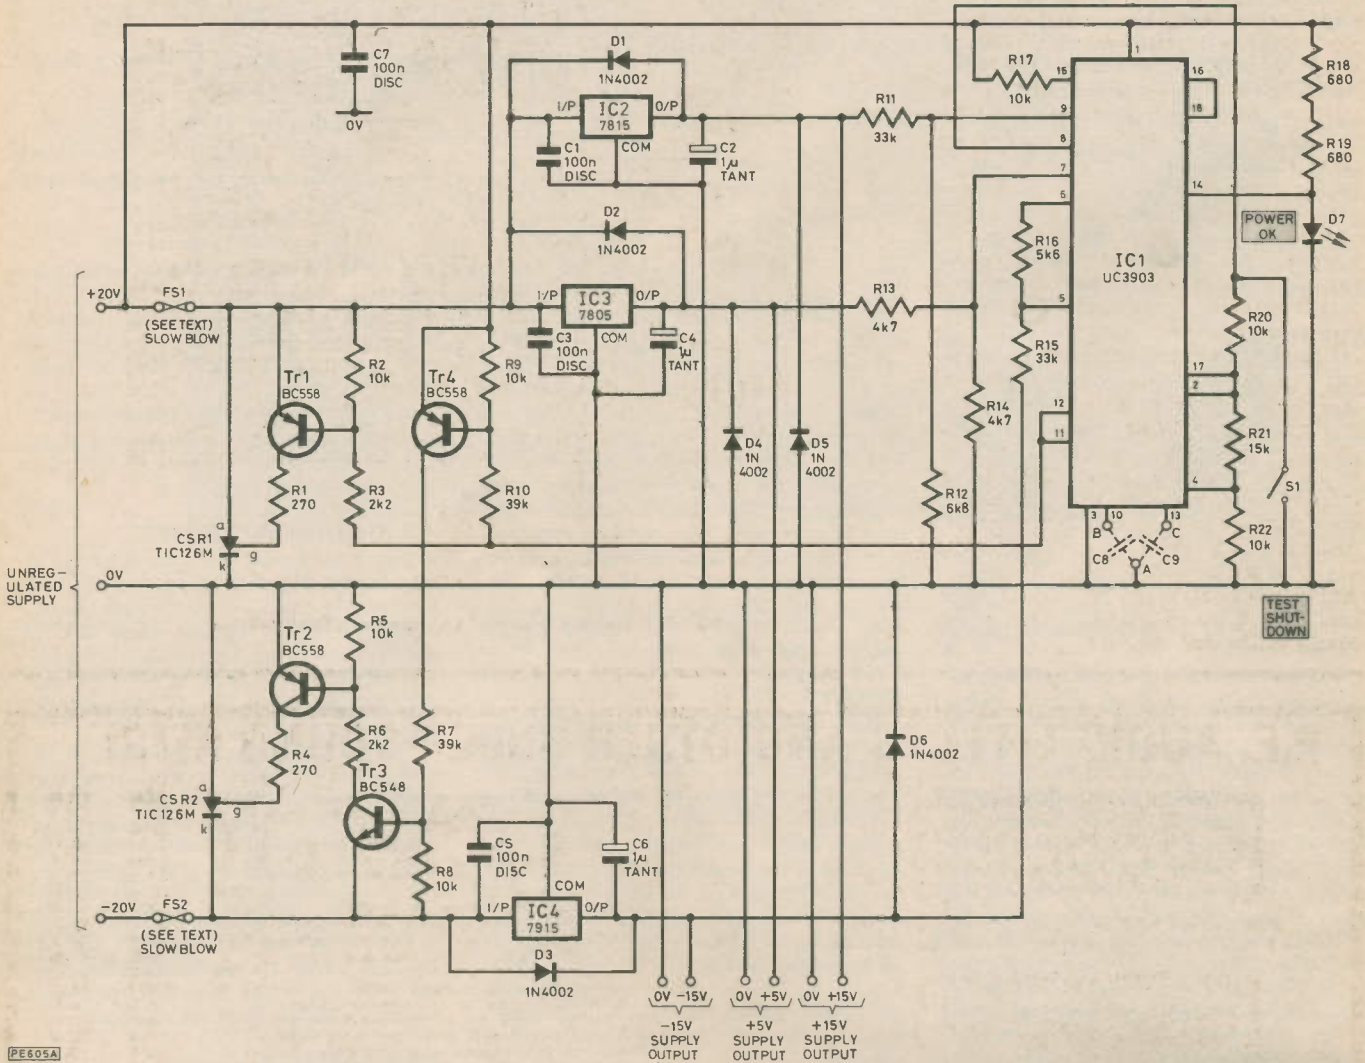
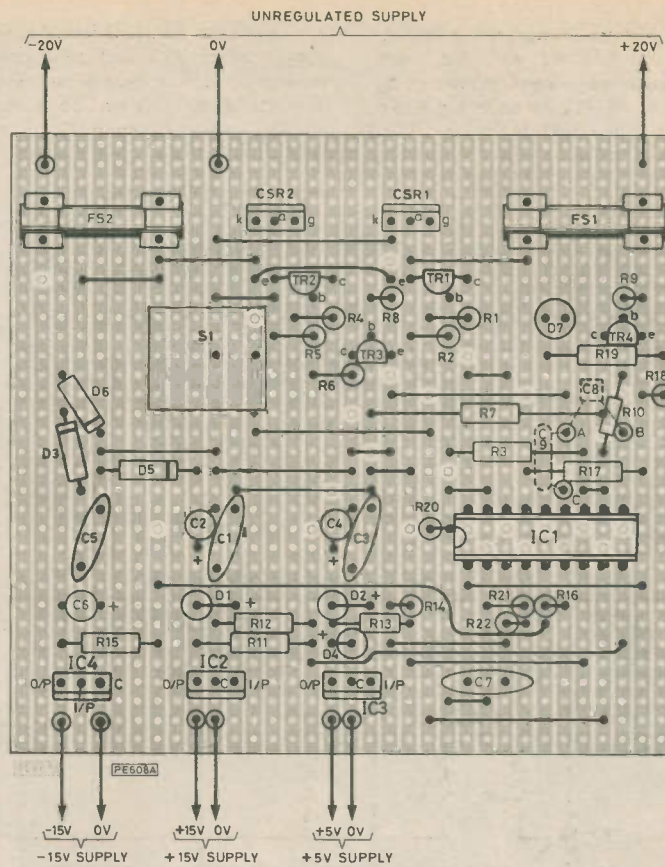

Fig. 7. Auto shut-down multiple regulator
Fig. 8. Veroboard layout of the multiple regulator
**T**HIS circuit uses the UC3903 i.c. to monitor three supply voltages, as part of a three rail power supply system. The circuit diagram is shown in Fig. 7, and its Veroboard layout in Fig. 8. If any of the supplies are
The circuit can prove rather tedious to test, since the first thing that happens if there's a fault is that it blows the fuses, at which point there's nothing to test any more! Initial tests should be done with R1 and R4 omitted, which prevents CSR1 and CSR2 being triggered. When the fuses have been blown, the supply should be turned off and the unregulated supply allowed to discharge before new fuses are inserted, or they will blow immediately in all likelihood. PCB fuse clips are used in Fig. 8, but off-board fuseholders could equally well be used, of course.